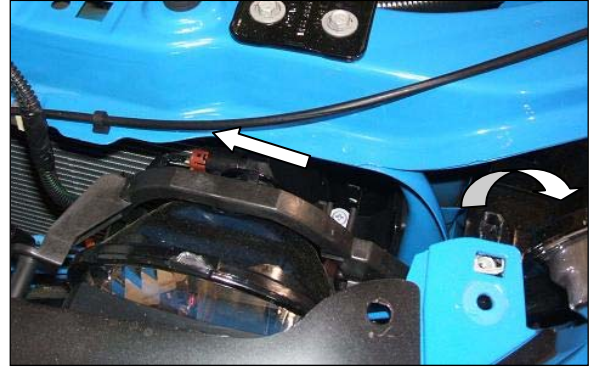

Figure 9
11. Lift the two (2) upper fascia mounts from the pins on the headlamp assemblies and slightly pull the upper Grille forward to disconnect the left and right fog lamp connectors. Refer to Figure 9. When complete, return the upper fascia mounts to the pins on the head lamp assemblies.
18. Reinstall the front fascia onto the vehicle. Reconnect the upper fog lamp connectors. Refer to Step 11, Figure 9. Hook the upper fascia mounts onto the pins of the head light brackets. Reinstall the two (2) bolts, removed in Step 10, to the head light brackets. Refer back to Figure 8. Torque the bolts to 8 Nm (71 lb-in).